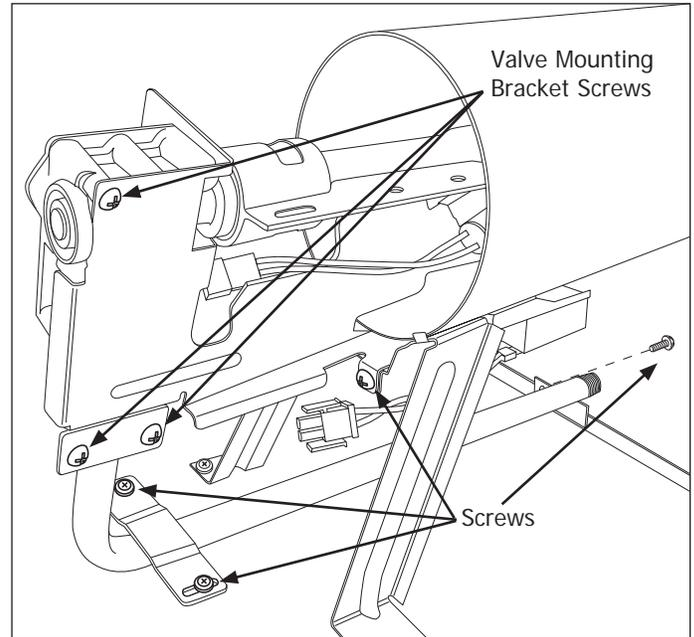

Figure 4-43.
4. Using a #2 square bit screwdriver, extract the screw from the rear of the unit base securing the manifold mount to the unit base. (See Figure 4-43)
5. Extract the two screws from the manifold mount located beneath the combustion tube. (See Figure 4-43)
6. Extract the screw from the bent down tab at the entrance of the combustion tube. (See Figure 4-43)
9. Extract the three screws securing the gas valve mounting bracket to the gas valve and manifold. Remove the gas valve mounting bracket from the assembly. (See Figure 4-43)